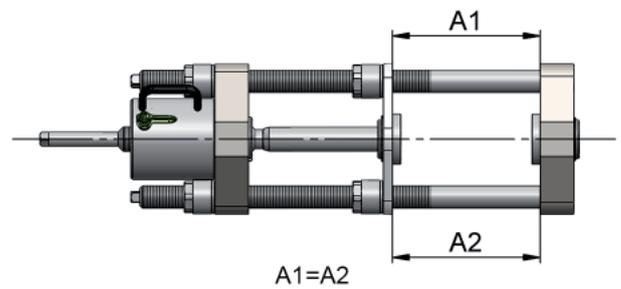
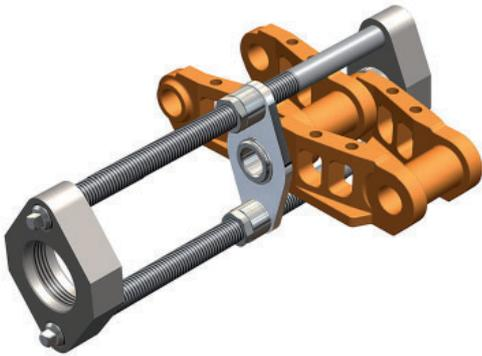

Fig. 10
Fig. 11
4. Place the cylinder yoke at the end of the rods as shown in fig. 10. Screw the cylinder into the cylinder yoke, fig. 11.